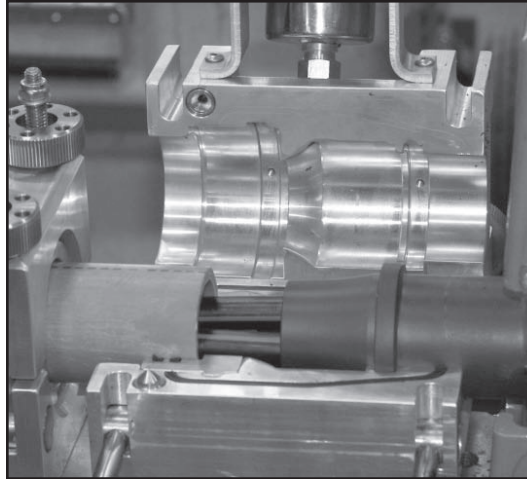

Figure 26
- C. Plug any holes in the Venturi that will not be used with the included Venturi Plugs (Figure 26)